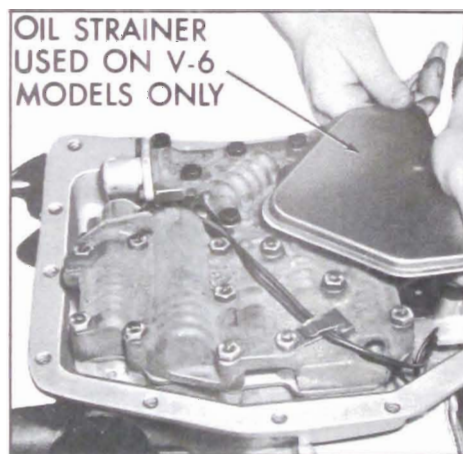

Figure 5-347
14. Install oil strainer on V-6 models. See Figure 5-347.